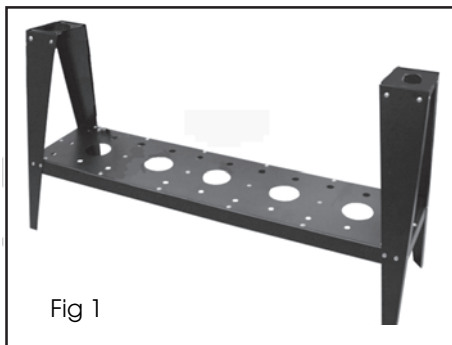

Fig 1
1. Assemble the front & rear legs, supports and top plates using the coachbolts, nuts and washers as shown in Fig 1.